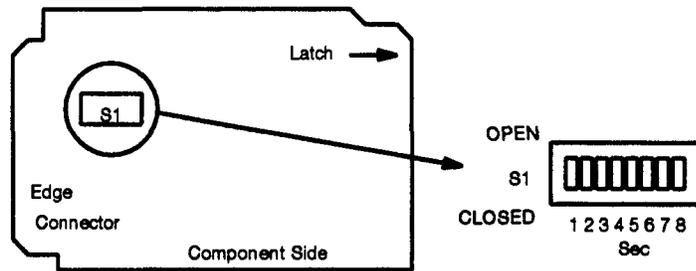

Figure 4. AKM6 DS3U2 Option Settings
43. Refer to **Figure 4** and set the option switches on the **AKM6 DS3U2**.